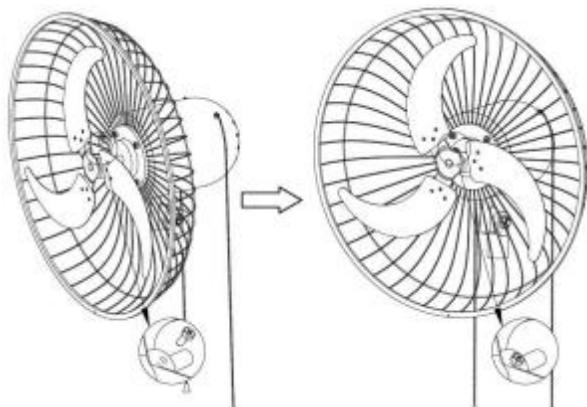

Fig.6.
2). Install the fan blade(15) on the motor shaft, and then lock the blade screw(14).See the (Fig.6.)